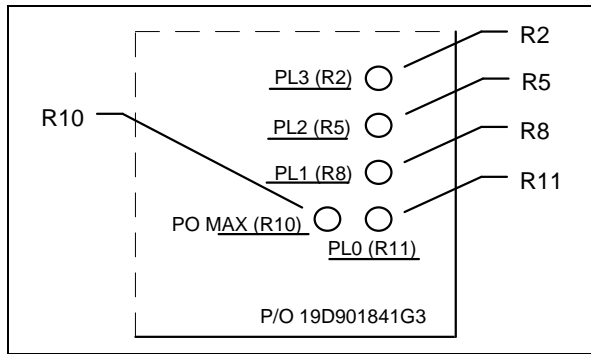

Figure 13 - Power Amplifier Adjustment Locations
2. Connect a RF Directional Wattmeter (item 18) between the PA output and the TX Combiner. Put the Wattmeter into FORWARD mode. Attach a 150 watt RF load (item 21) onto the output of the TX Combiner.
6. Using a non-inductive tuning tool, adjust R11 on the PA Assembly for the forward output power required to effect the required ERP (see Figure 13). Record the final output power.